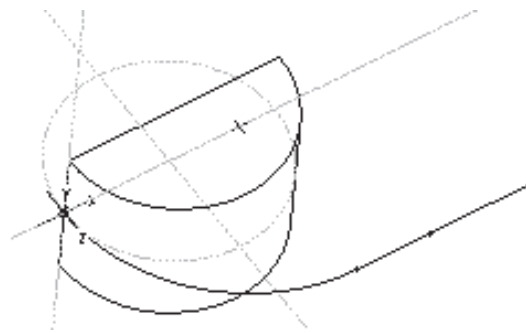

Figure 8-45 Spined view of the sketch showing the origin trajectory, base feature, and the default coordinate system
11. Use CTRL+middle mouse button to spin the view of the sketch as shown in Figure 8-45 to have a better understanding of the sketch in 3D space.